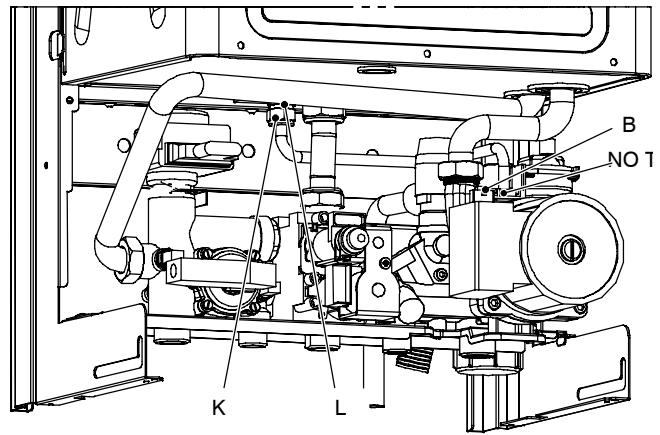

Fig. 64
- 2 Completely unscrew the connection K, the lock-nut L (Fig. 64) and remove the expansion vessel from the top of the boiler.